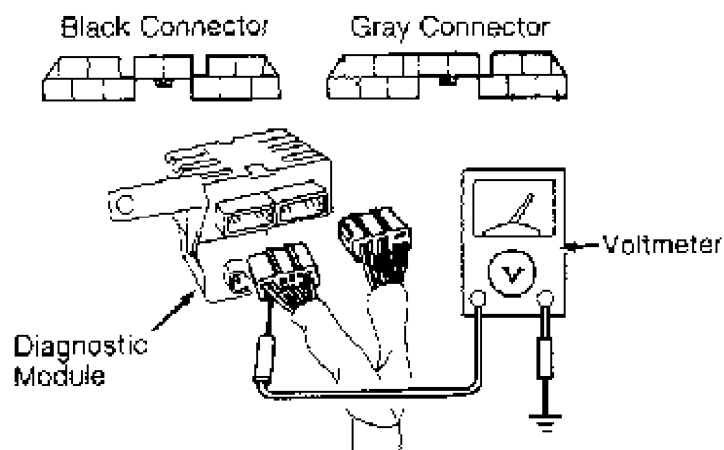

Fig. 10: Locating Diagnostic Module Black & Gray Connectors (Miata)
4) If battery voltage is present, disconnect negative battery cable and diagnostic module Black and Gray connectors. See Fig. 10 or 11. Reconnect negative battery cable. Measure voltage between White/Green wire of Gray diagnostic module connector and ground. If voltage is zero volt, replace wire harness assembly.
connectors. See Fig. 10 or 11. Measure resistance between diagnostic module Gray connector Brown/Green wire and ground. If resistance is 1.2 k/ohms, go to next step. If resistance is not 1.2 k/ohms, replace wire harness.
2) If resistance is about 1.2 k/ohms, reconnect all front impact sensor connectors. Disconnect diagnostic module Black and Gray connectors. See Fig. 10 or 11. Measure resistance between diagnostic module Gray connector Brown/Green wire and ground. If resistance is 1.2 k/ohms, go to next step. If resistance is not 1.2 k/ohms, replace wire harness.
1) Disable air bag system. See DISABLING & ACTIVATING AIR BAG SYSTEM. Disconnect diagnostic module Black and Gray connectors. See Fig. 10 or 11. Check continuity between Black connector Green/White wire terminals. If continuity is not present, replace wire harness.
3) If continuity is present, disconnect diagnostic module Black and Gray connectors. See Fig. 10 or 11. Check continuity between diagnostic module Black connector Green/White wire and clockspring connector Red wire. Also check continuity between diagnostic module Black connector Green/Yellow wire and clockspring connector Green/Yellow wire. If continuity is not present, replace wire harness assembly.
1) Disable air bag system. See DISABLING & ACTIVATING AIR BAG SYSTEM. Disconnect diagnostic module Black and Gray connectors. See Fig. 10 or 11. Check continuity between Black connector Brown/Yellow wire and ground. If continuity is not present, go to step 4). If continuity is present, go to next step.
1) Disable air bag system. See DISABLING & ACTIVATING AIR BAG SYSTEM. Disconnect diagnostic module Black and Gray connectors. See Fig. 10 or 11.